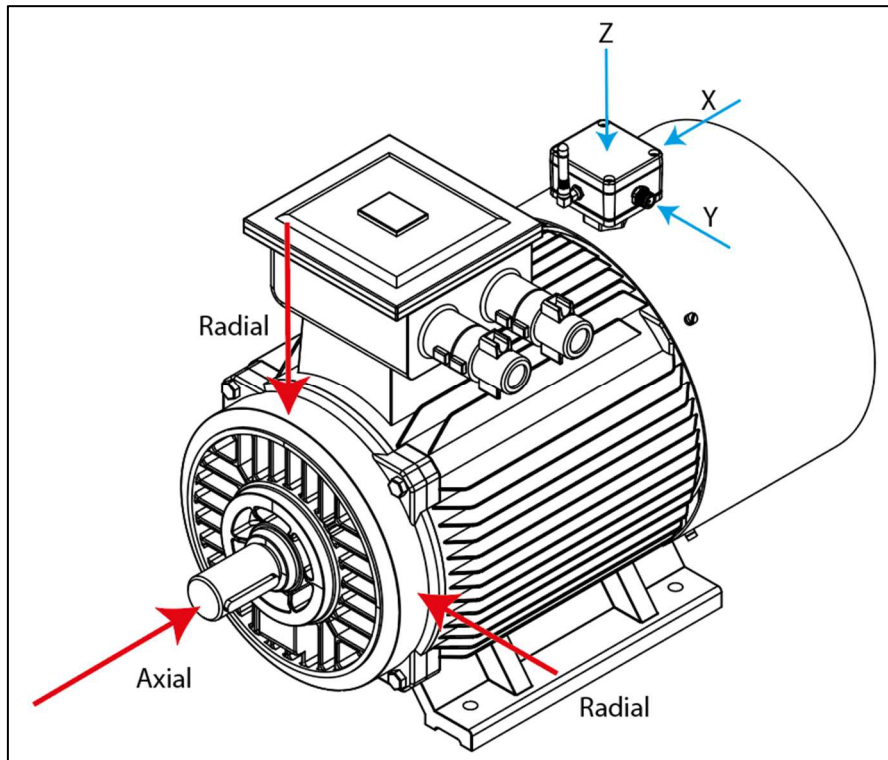

Figure 27.- Module installation – Axis orientation
4. Determine the orientation of the axis on the machine according to the axis present on the module label (Figure 27).